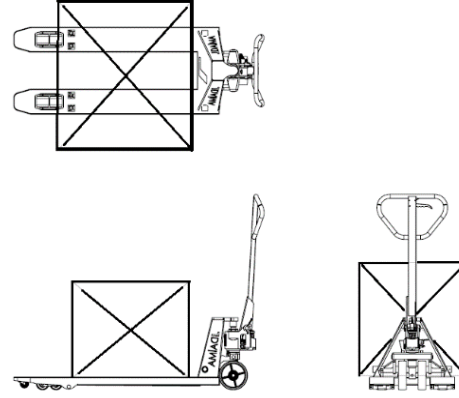

Figure 6
- The correct loading method of the pallet truck is shown in figure 6.
- ▶ The ideal loading method (see Figure 6) is when the center of gravity of the load is in the middle of the forks of the pallet truck. The nominal weight must be reduced if the center of gravity of the load is not in the middle of the forks.